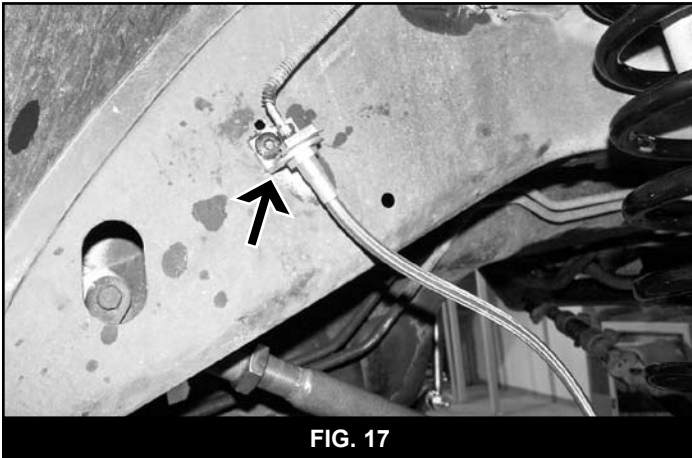

FIG. 17
46. Install BDS front brake line (22510) by attaching upper portion first. Tighten securely (Fig 17).